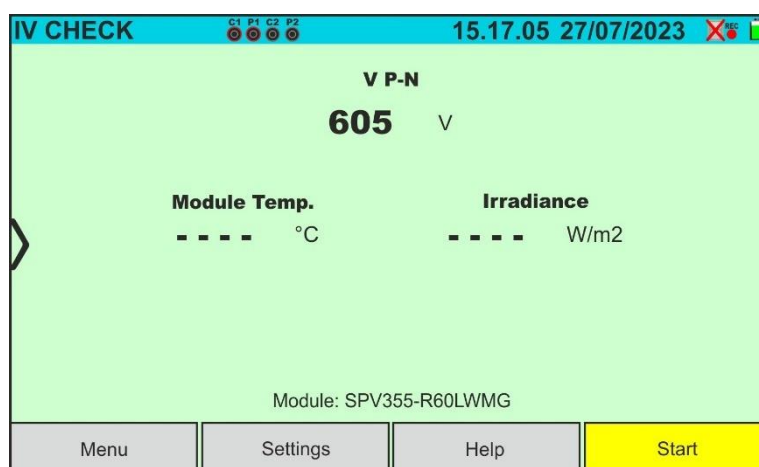

Fig. 73: IVCK test screen with SOLAR03 in synchronous recording on Monofacial modules
10. In the case of **Monofacial** modules, the Fig. 73 screen is shown on the display. The following parameters are indicated: